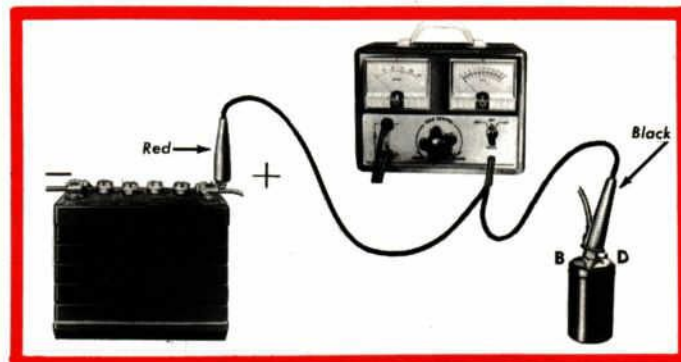

Figure 4—Battery to Coil & Starting Ignition Circuit Test
1. Connect the voltmeter leads as shown in Figure 4.